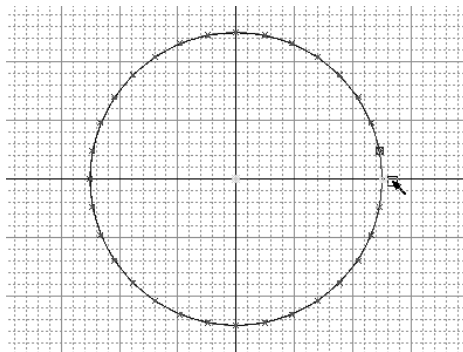

Figure 11-95 Selected CV
10. Select the CV from the active window, as shown in Figure 11-95.